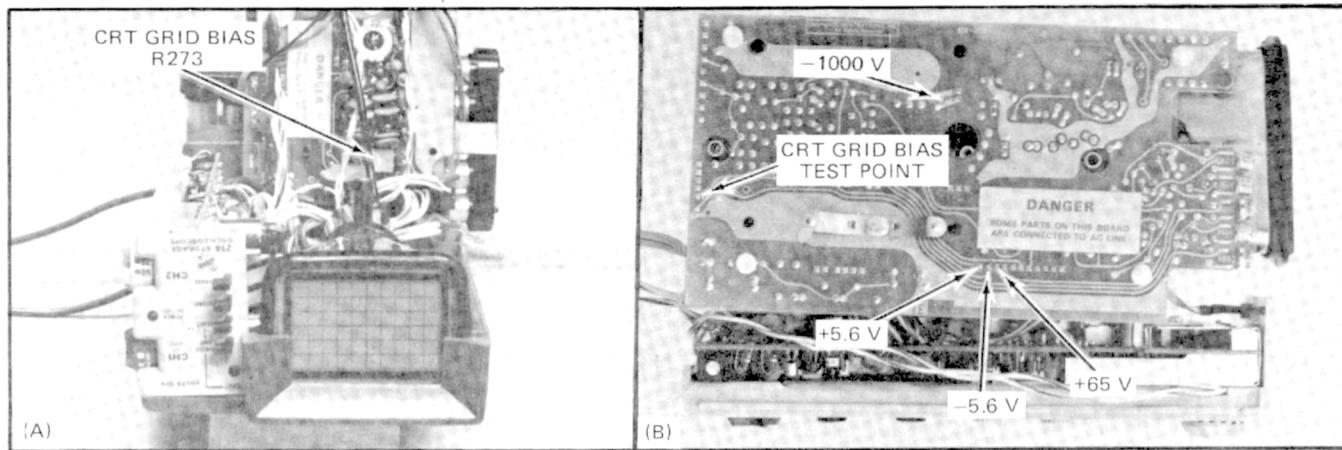

Fig. 4-1. (A) Location of Grid Bias adjustment and (B) Power supply test points.
- Using the DC Voltmeter, measure the DC level of the power supplies given in Table 4-2. Observe proper meter polarity. See Fig. 4-1 for test point locations.
a. Connect the DC Voltmeter between pin 5 and pin 2 of plug P3 (negative meter lead to pin 2) on the Power Supply Board (A-3). See Fig. 4-1.